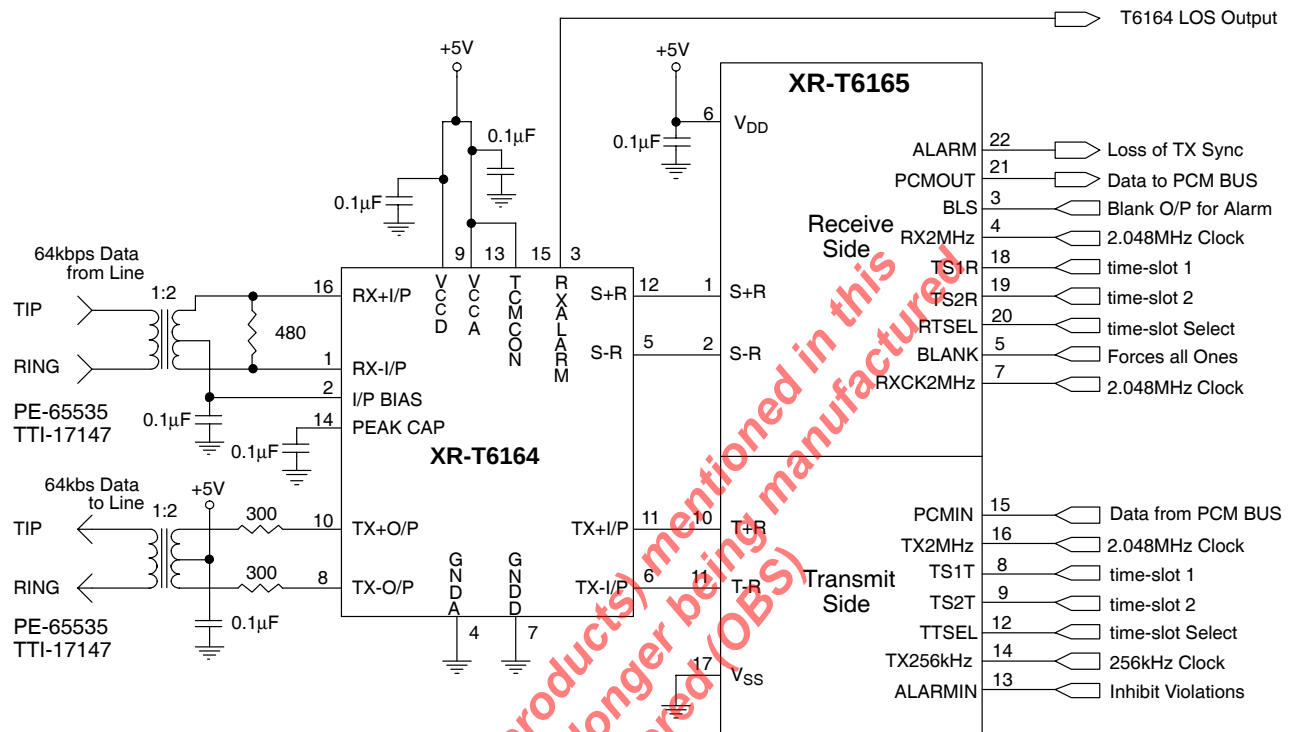

Figure 6. Typical Codirectional Application Circuit
*Figure 6* shows a codirectional interface circuit using the XR-T6165 with the XR-T6164 line interface. The XR-T6164 first converts the bipolar 64kbps transmit and receive signals to active-low TTL compatible data required by the XR-T6165. The XR-T6165 then performs the digital functions that are necessary to interface this 64kbps continuous data to a 2.048Mbps PCM time-slot.
The 64kbps signals that have been attenuated and distorted by the twisted pair cable are transformer-coupled to the line side of the XR-T6164 as shown on the left side of *Figure 6*. A suggested transformer for both the input and output applications is the pulse type PE-65535.
The right side of *Figure 6* shows the XR-T6164 **LOS** (Loss of Signal) output and the XR-T6165 digital inputs and outputs. All of these pins are TTL compatible. Please refer to the pin description section of this data sheet for detailed information about each signal.
pulses respectively of either polarity. Note that this mask is for the pulse measured at the XR-T6164 transmitter output (application circuit shown in Figure 6) when terminated with a  $120\Omega$  resistor.